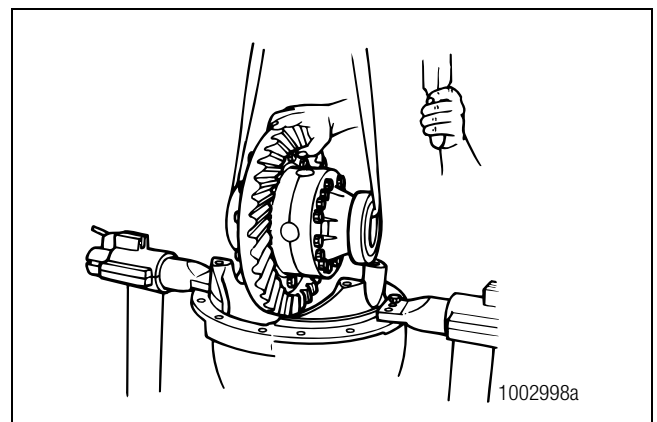

Figure 3.15
8. Safely lift the main differential and ring gear assembly from the carrier. Place the assembly on a workbench. Figure 3.15.